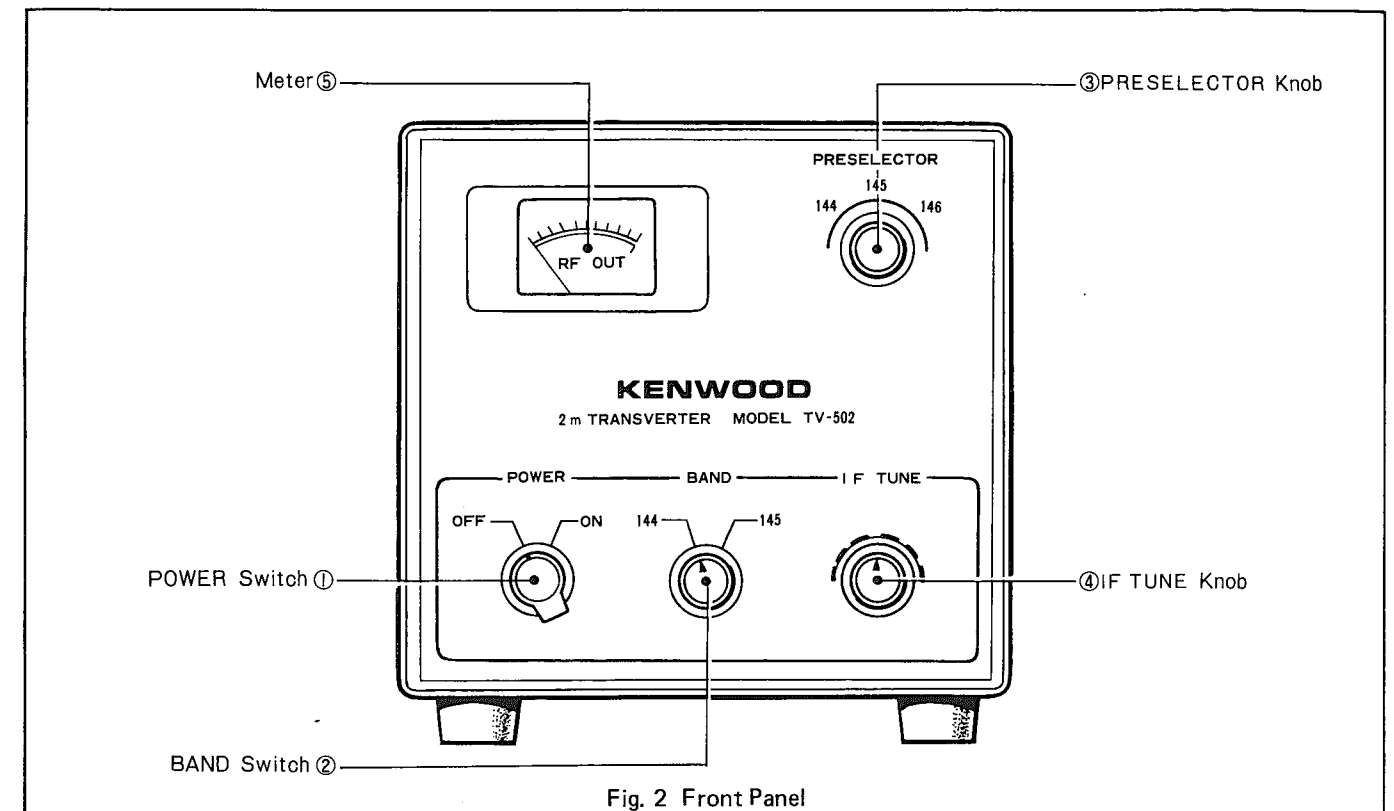

Fig. 2 Front Panel
2.1 FRONT PANEL (SEE FIG. 2)
- ① **POWER SWITCH**